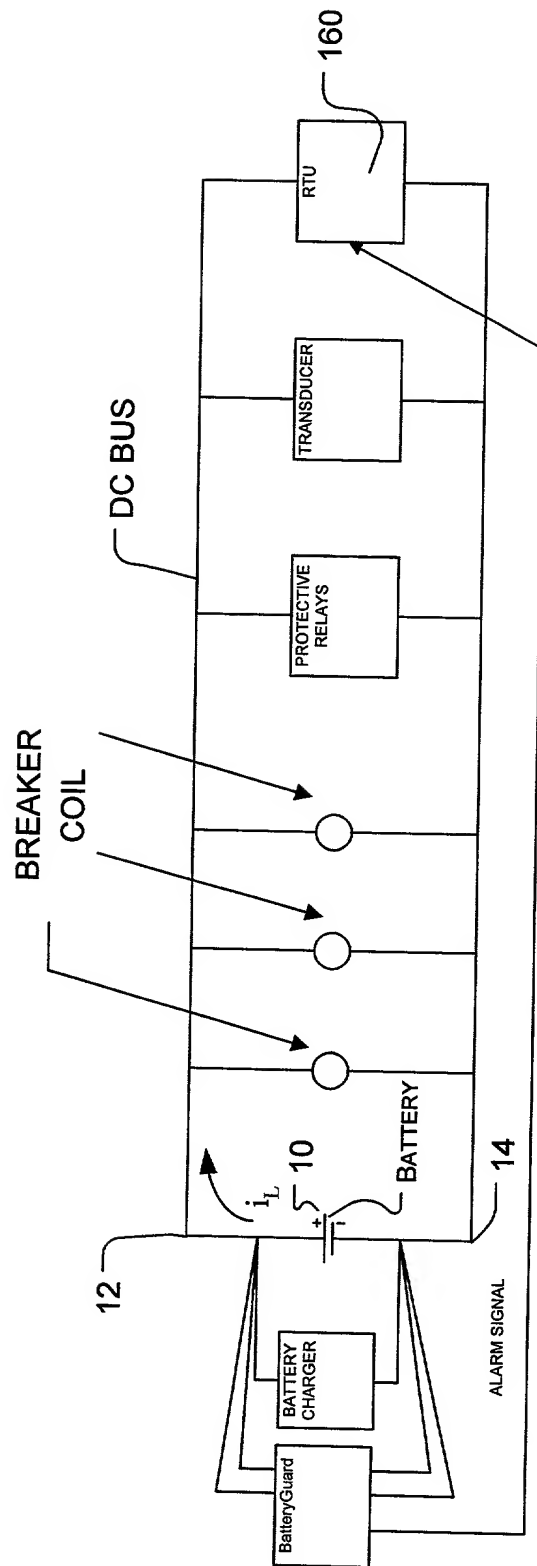

FIG 1A
FIG. 1A is a schematic diagram of a DC bus system. The system includes a DC BUS (14) connected to a BATTERY (10) and a BATTERY CHARGER (12). The BATTERY (10) is connected to the DC BUS (14) via a switch (16). The BATTERY CHARGER (12) is connected to the DC BUS (14) via a switch (18). The DC BUS (14) is connected to a BREAKER COIL (16), a PROTECTIVE RELAYS (18), a TRANSDUCER (20), and an RTU (22). The RTU (22) is connected to an ALARM SIGNAL (24). The ALARM SIGNAL (24) is connected to the BATTERY CHARGER (12) and the BATTERY (10).